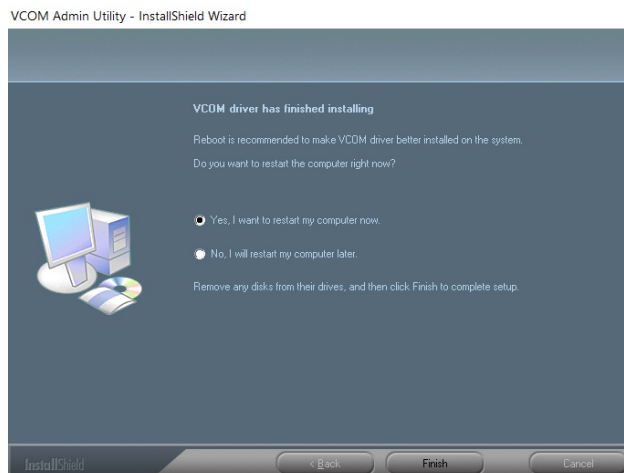

Figure 5-1-5 : Restart System
5. Restart computer as shown in Figure 5-1-5.